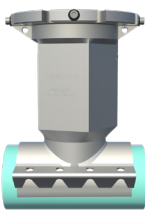

FIGURE 2
2.0.6) Mount the top half of the valve body on the pipe in the position required for permanent installation (see Figure 2). Do not rotate the top half of the valve body after it is positioned on the pipe.